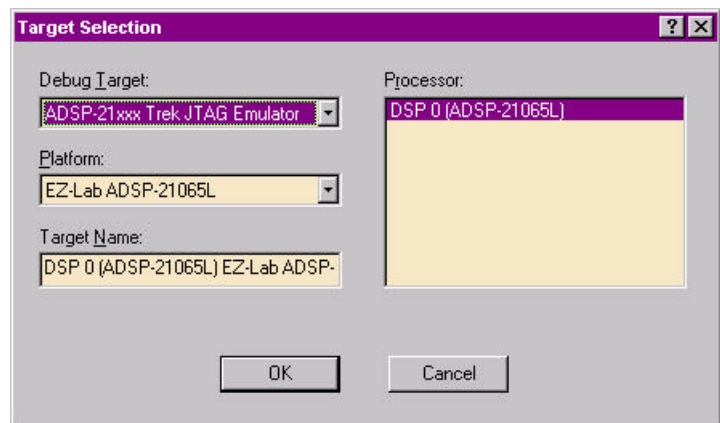

Figure 13. New Session Selection
13. Under the **Debug Target** pull down list select **ADSP-21xxx Trek JTAG Emulator**. See figure 13.